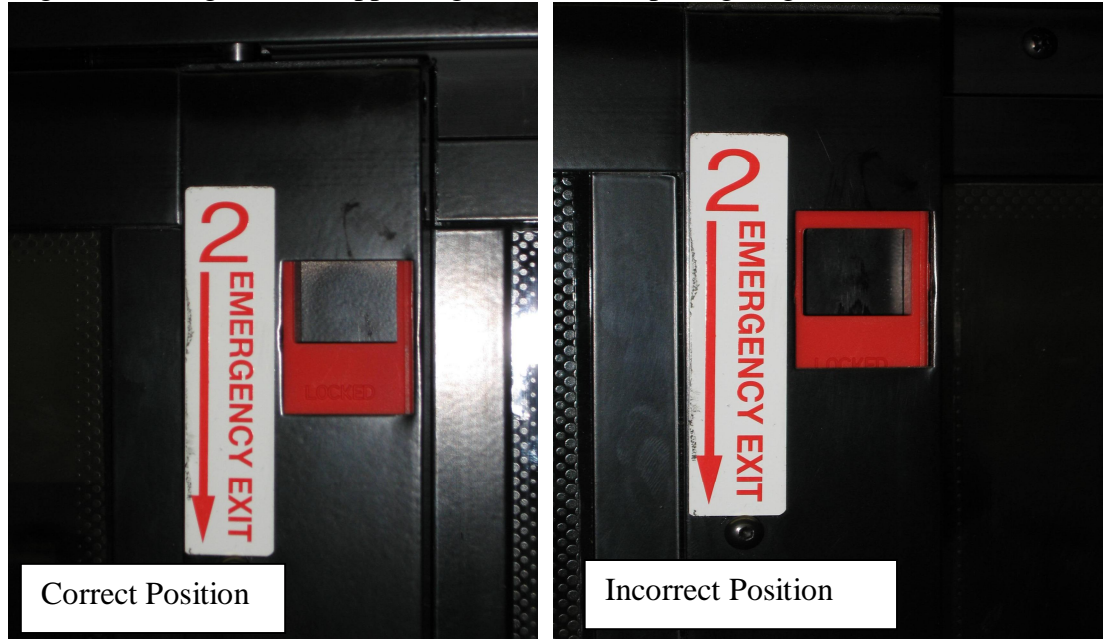

Figure 5
- 6) Confirm that both latches are in the closed (latched) position. The upper edge of the latch opening must be aligned with upper edge of the sash opening (Figure 5)